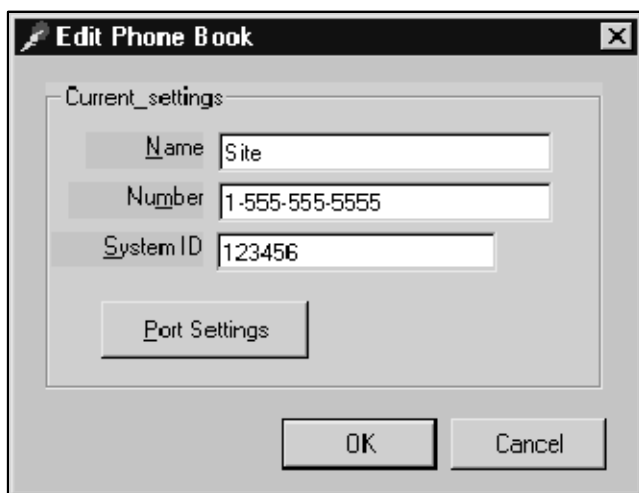
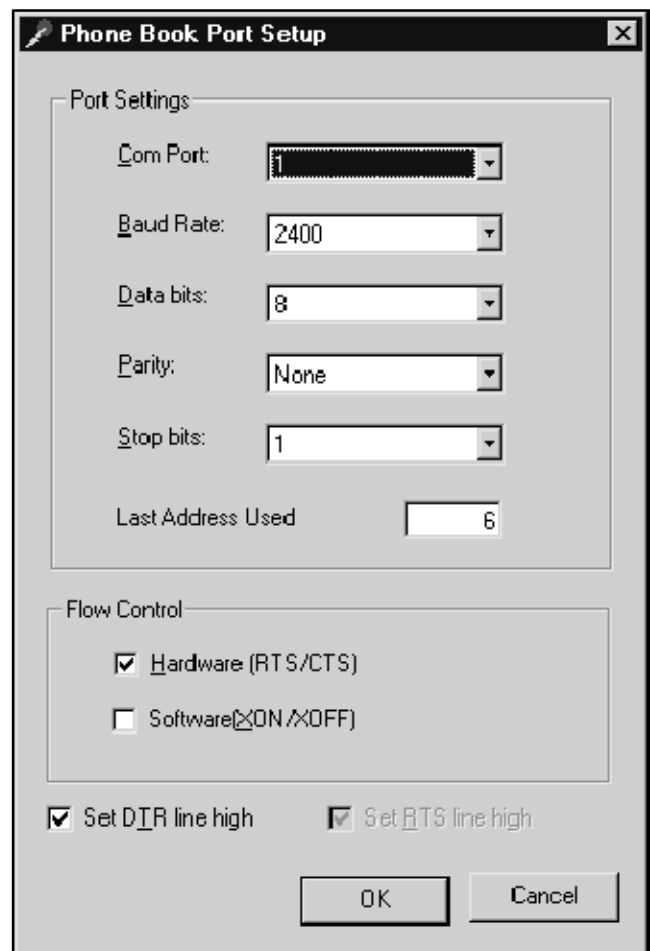

Figure 2-8 Edit Settings or Add Item
Figure 2-9 Port Settings
2. Click the Add Item button to add a new entry for the site. The Edit Phone Book dialog box appears. See Figure 2-8.
6. Click the Port Settings button. See Figure 2-9.
To change settings for a connection site, select a named site from the left pane and click the Edit Settings button. Edit the phone book or port setting information and click OK. See Figure 2-8 and Figure 2-9.